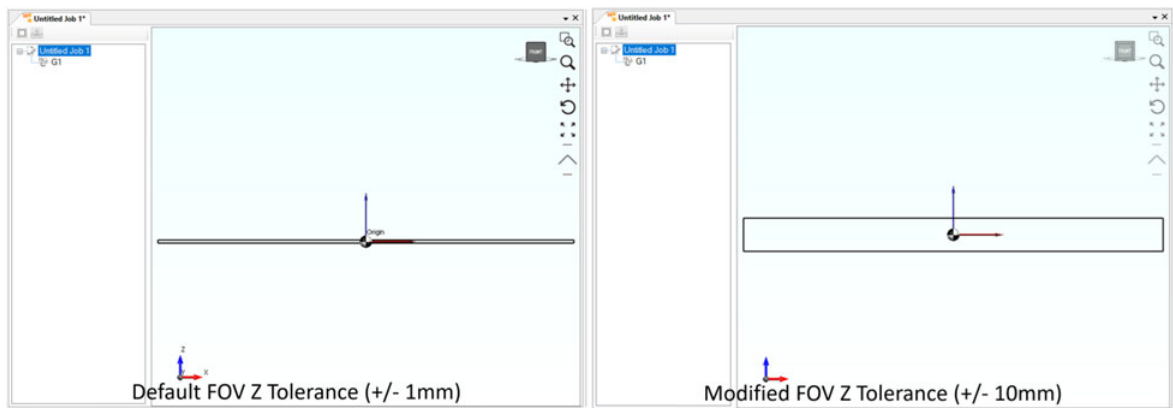

Figure 30: Change in FOV Z Tolerance
- a. Upon reopening, users should notice that the FOV Z tolerance has been modified (from a Front or Side View). See Figure 30.